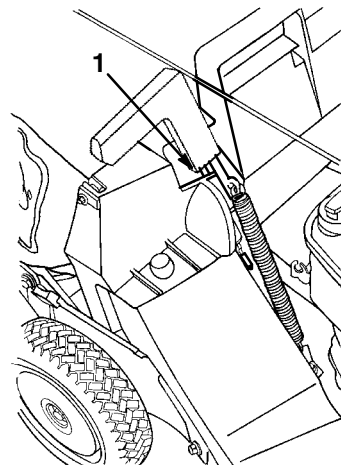

Figure 17
5. Pull the discharge door handle forward until the pin clears the catch, and move the handle rearward until the pin locks in the bag notch (Fig. 17).